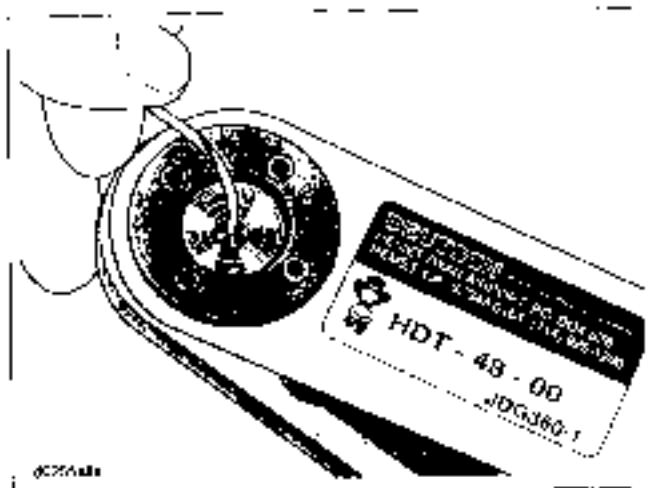

Figure B-17. Contact Barrel
9. See Figure B-17. Insert bare wire strands into contact barrel